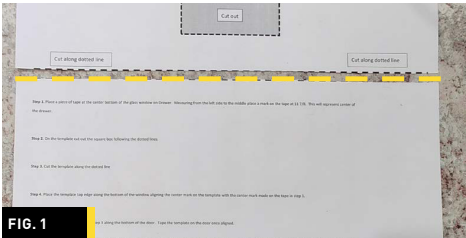

FIG. 1
- To reduce the risk of tipping of the drawer, the Anti-Tip block must be properly installed located 14-13/16" above the floor on which the appliance will sit. The 6" Anti-Tip block must be provided by the installer. See figure 1 and 3. The Anti-Tip block prevents serious injury that might result from spilled hot liquids.
Cut along dotted line separating template from instruction sheet. See **Fig. 1**